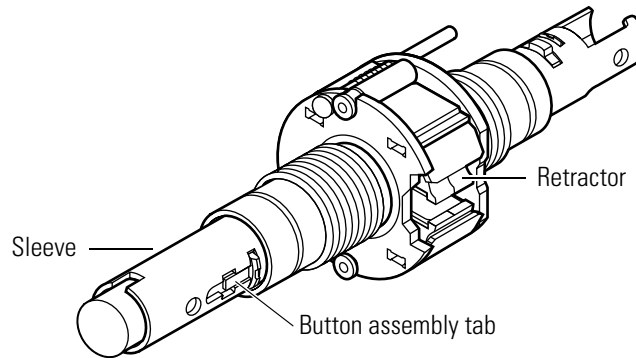

Figure 3.12 Removing the button assembly
2. Use a flat screwdriver to press down on the button assembly tab, which is visible through the cutout in the sleeve, as shown in Figure 3.12. The tab should now lie flat.